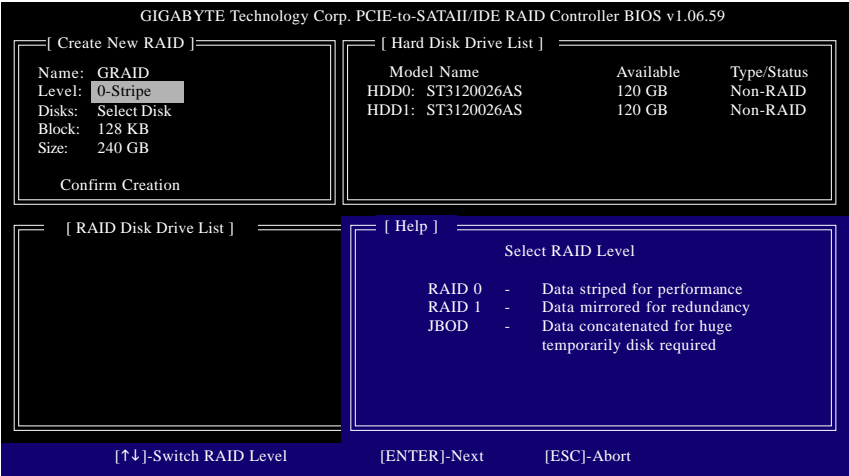

Figure 5
The **Create New RAID** block displays all the items that need to be set for creating an array (Figure 5).
2. **Select RAID Mode:** Under the **Level** item, use up or down arrow key to select RAID 0 (Stripe), RAID 1 (Mirror), or JBOD (Figure 5). Then press <Enter> to move onto the next step.